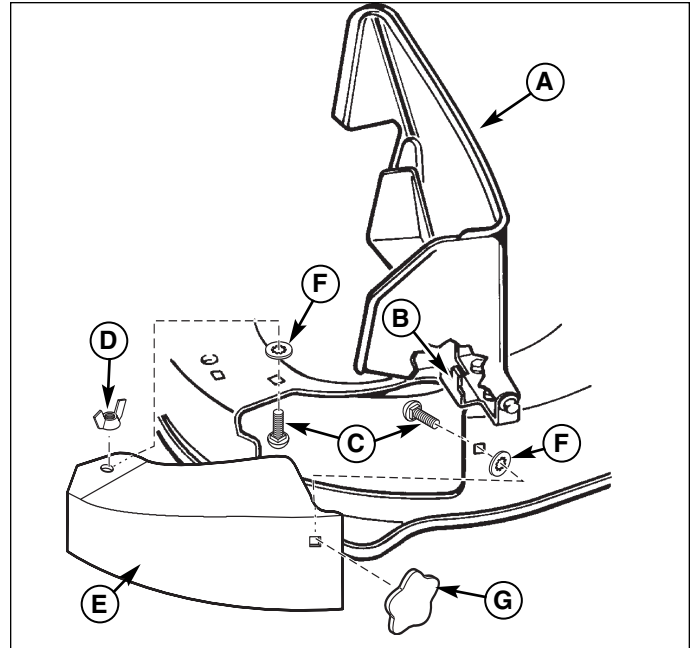
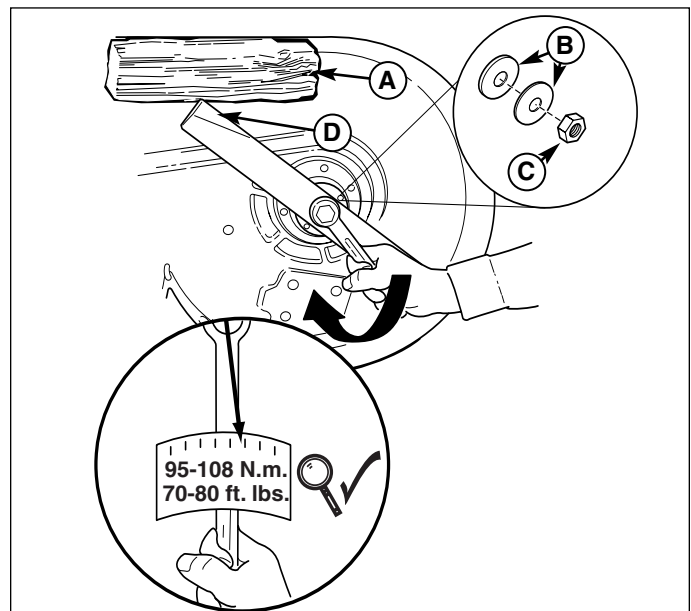

Figure 4. Mulch Cover Installation and Removal
Figure 5. Blade Installation
4. Lift deflector (A, Figure 4) and remove any grass clippings from discharge opening.
5. Secure the 5/16-18 x 3/4 carriage bolts (C) onto mower deck housing using 5/16 push nuts (F).
6. Slide front of the mulch plate (E) under deflector bracket (B).
7. Secure mulch plate (E) using the carriage bolts (C), wing nut (D) and knob (G) as shown.
8. Lower deflector (A) over mulch plate (E).
9. Install the new blades with the lift wings (D, Figure 5) pointing up toward the mower deck.
10. Reinstall the spring washers (B) and nut (C). Use a wooden block (A) to prevent blade rotation while tightening the nut (C) to 70-80 ft. lbs. (95-108 Nm).